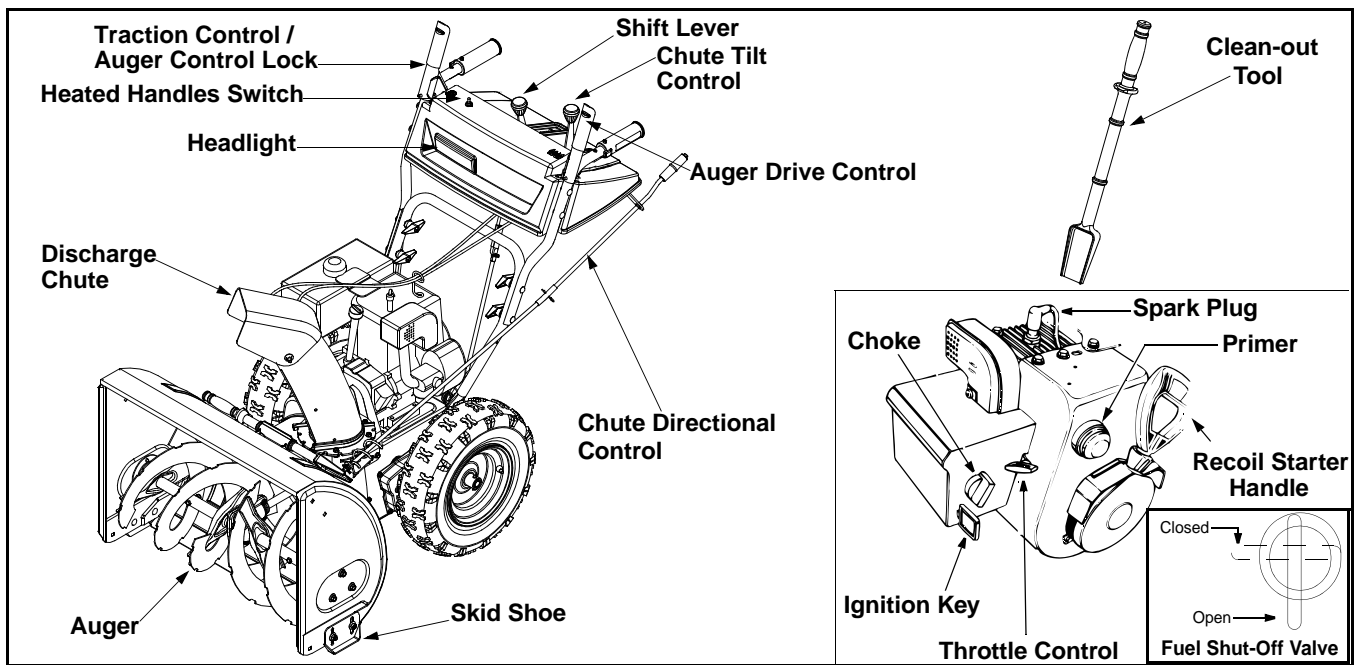

Figure 7
The distance snow is thrown can be changed by adjusting the angle of the chute assembly. Move the chute tilt control forward to decrease the distance, toward the rear to increase. See Figure 7.
The chute clean-out tool (see Figure 7) is designed to clear a clogged discharge chute. Refer to **Operating Your Snow Thrower** on page 10 for detailed instructions on how to properly use the chute clean-out tool.
On models so equipped, the fuel shut-off valve, located under fuel tank, controls fuel-flow from the gas tank. See Figure 7.
The throttle control is located on the engine. It regulates the speed of the engine. See Figure 7.
The position of the skid shoe is determined by the condition of the ground from where snow has to be removed. See Figure 7.
- Move throttle control up to FAST position. Insert ignition key into slot. Be certain it snaps into place. Do not turn key. See Figure 7.
The chute clean-out tool is conveniently fastened to the rear of the auger housing with a mounting clip (Refer to Figure 7). If the discharge chute becomes clogged during operation, proceed as follows to safely clean the chute and chute opening: